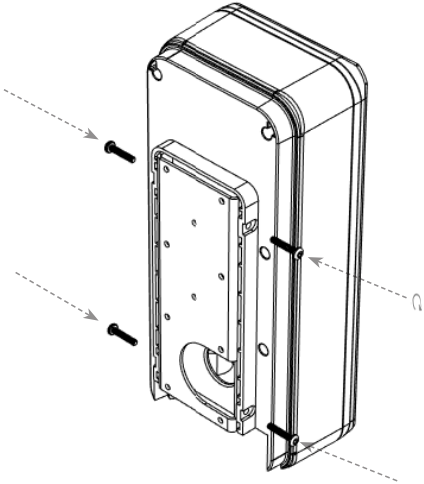

Figure 3-8 Tighten 4 Screws
Step 4: Attach the charger housing to the mounting bracket using the four 10-24, 1” Torx screws (included in the hardware pack). Tighten the screws to 30 in-lbs. using the Torx Screwdriver T25. See Figure 3-8.